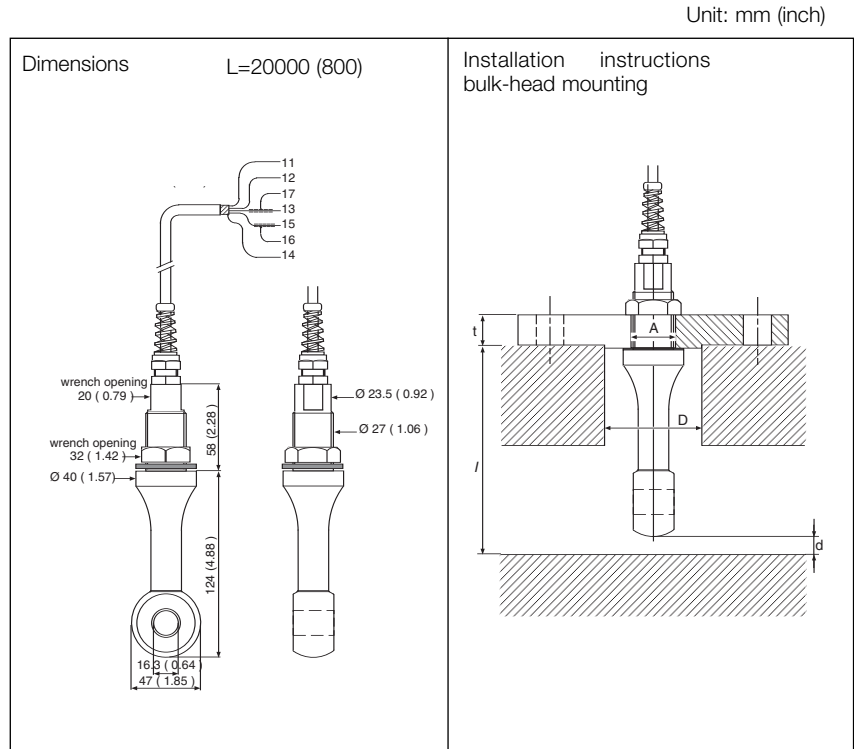

Figure 3-4.
For easy wiring the sensor must be located within 5/10 m (16/32 ft) from the transmitter using the integral sensor cabling (refer to fig. 3-4).
The analog output signals of the EXA ISC402G transmits low power standard industry signals to peripherals like control systems or strip-chart recorders, refer to Fig. 3-4.
3. The sensor leads are numbered and the leads must be connected to the terminals with the corresponding number, refer to Fig. 3-4: